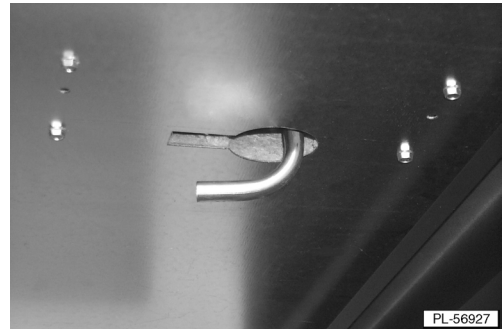

Fig. 13
1. Connect an overflow drain line to the outlet using $\frac{1}{2}$ -in. I.D. size plastic tubing and a $\frac{1}{2}$ -in. size hose clamp. The $\frac{1}{2}$ -in. O.D.-size outlet is located on the underside of the display case (Fig. 13).